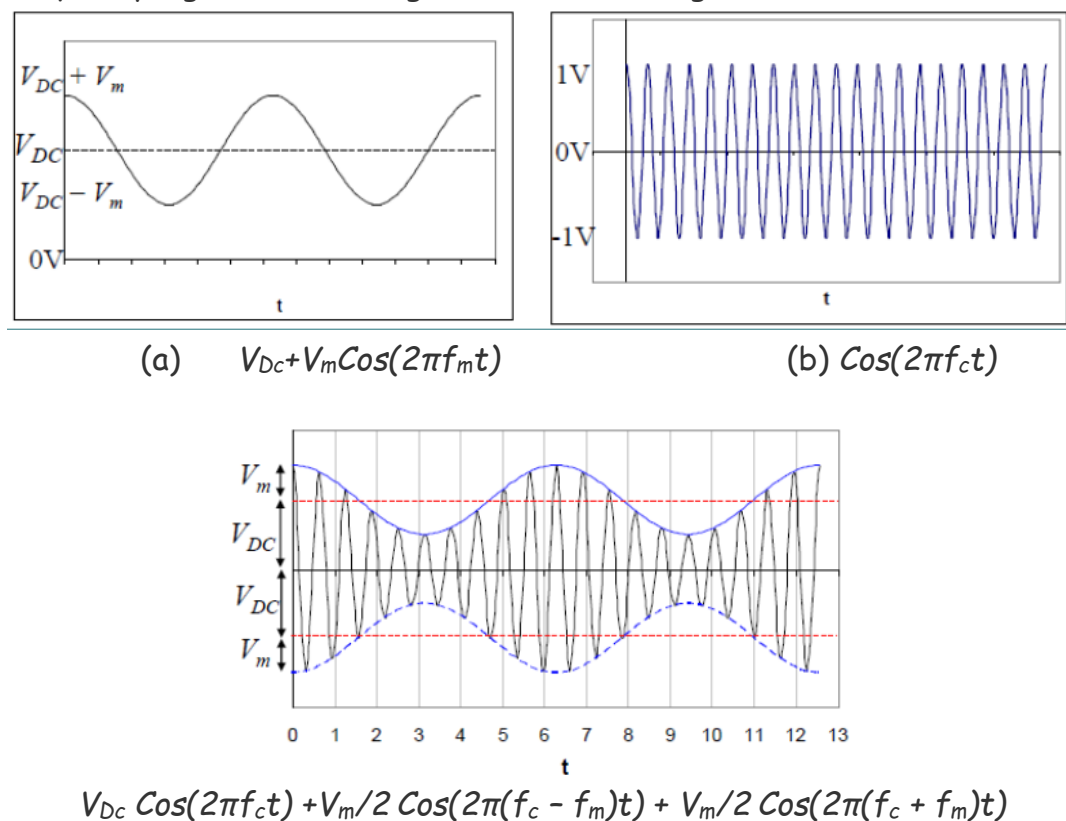
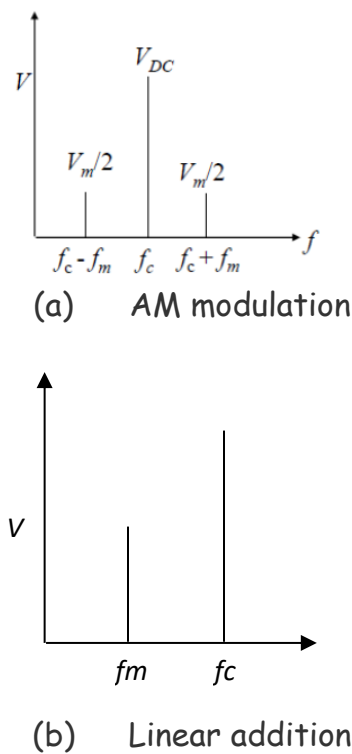
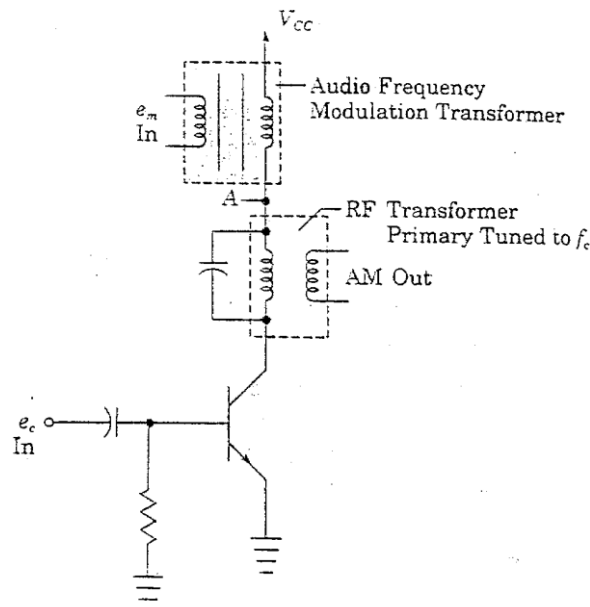

Fig. 7-1 (a) shows a 1 kHz sine wave which can be combined with the 10 kHz signal shown in (b) to produce the AM signal of (c).
Fig. 7-3 AM modulation and linear addition in the frequency domain
Fig. 7-4 Simplified AM modulator
An AM signal can be produced; by using the instantaneous amplitude of the information signal (the baseband or modulating signal) to vary the peak of amplitude of higher frequency signal (Carrier signal) as shown in Fig. 7-1.
Fig. 7-3 shows the frequency-domain representation for AM modulation and the linear addition for two signals. **Note**, the AM signal has no components at the modulating frequency: all information is transmitted at frequencies near that of the carrier.
There are many ways to achieve the result shown in Fig. 7-1. Perhaps the easiest circuit to understand is that shown in Fig. 7-4. This circuit be used in the transmitter side.
From Class C lectures, the peak output voltage of a tuned Class C amplifier like that in Fig. 7-4 is approximately twice the collector supply voltage.
- 3- When the modulating voltage, at the modulating transformer secondary, has a peak amplitude equal to V_{CC} , the collector supply voltage (measured at point A in the Fig.7-3) will vary from zero to $2V_{CC}$ and the amplitude of the output waveform will vary from zero to twice its value without modulation as in Fig. 7-1(c) this is called 100% modulation.
- V_{DC} = It represents the V_{cc} voltage in Fig. 7-4 can be from 0 to +V.
Note: You can see the Fig. 7-4 circuit to note the mean of Eq.(7.1).